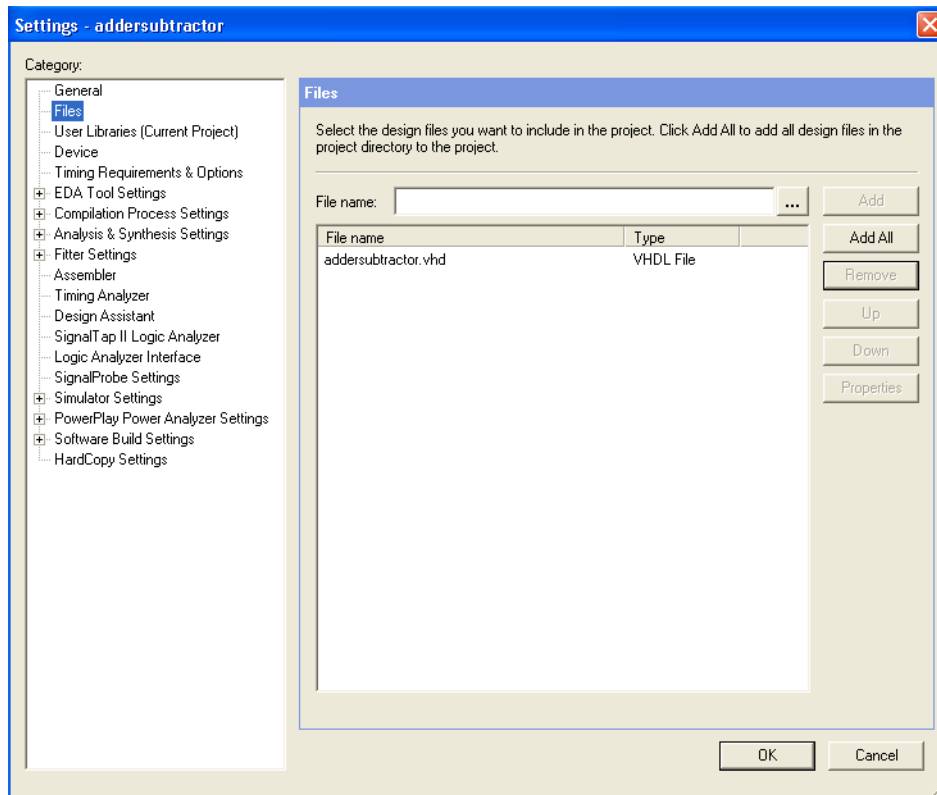
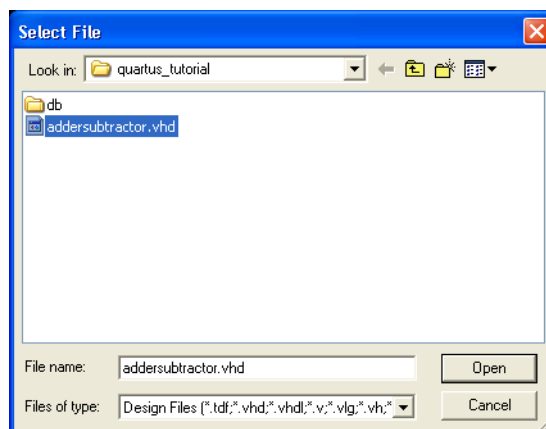

Figure 16: Settings window.
Figure 17: Select the file.
As we indicated when discussing Figure 6, you can tell the Quartus II software which design files it should use as part of the current project. To see the list of files already included in the *addersubtractor* project, select **Assignments > Settings**, which leads to the window in Figure 16. As indicated on the left side of the figure, click on the item **Files**. An alternative way of making this selection is to choose **Project > Add/Remove Files in Project**.
If you used the Quartus II Text Editor to create the file and checked the box labeled **Add file to current project**, as described in Section 3.1, then the *addersubtractor.vhd* file is already a part of the project and will be listed in the window in Figure 16. Otherwise, the file must be added to the project.
2. To add this file to the project, click on the **File name:** ... button in Figure 16 to get the pop-up window in Figure 17.
3. Select the *addersubtractor.vhd* file and click **Open**. The selected file is now indicated in the Files window of Figure 16. Click **OK** to include the *addersubtractor.vhd* file in the project.